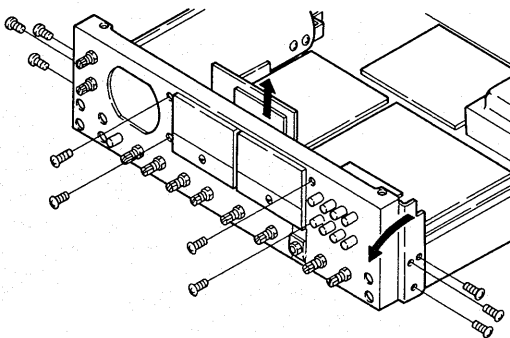

Fig. 27
## 6.5 LEVEL METERS (Figs. 27, 28)
2. Remove ten screws as shown in Fig. 27.